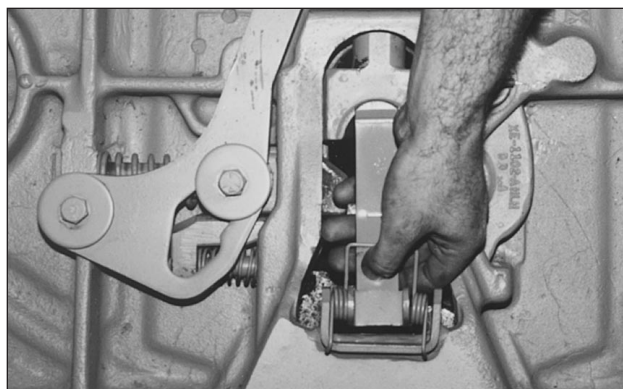

FIGURE 13
2. Assemble the lock guard (9) and torsion spring (10) (see Figure 13).